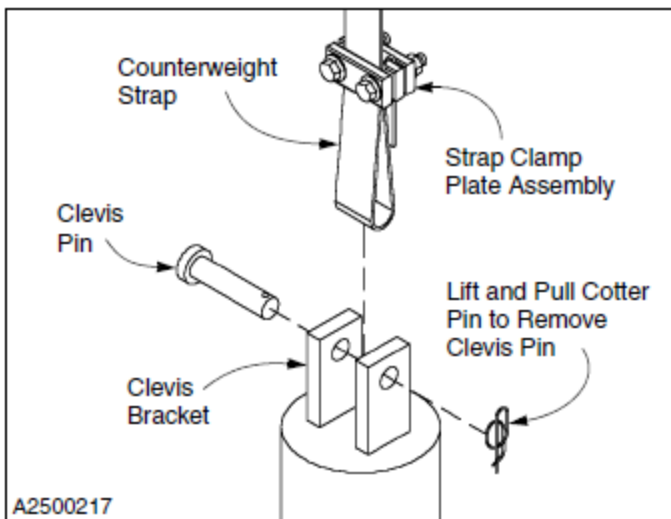

Figure 79
5. Release the yellow counterweight strap from the counterweight by removing the clevis pin. (See Figure 79)